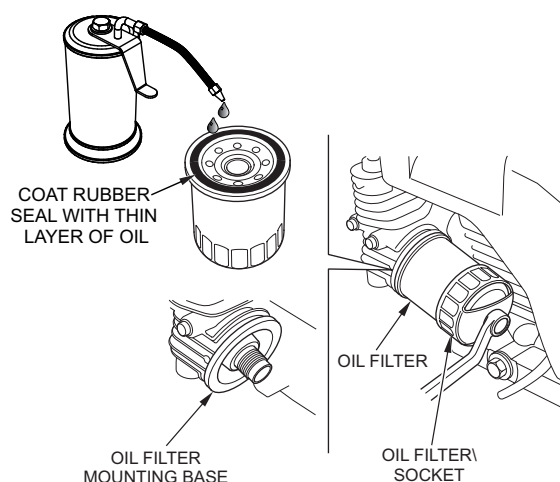

Figure 31. Oil Filter
- Replace the engine oil filter (Figure 31) every 200 hours.
4. Coat the rubber seal (gasket) surface of the oil filter with clean 15W-40 engine oil. See Figure 31.